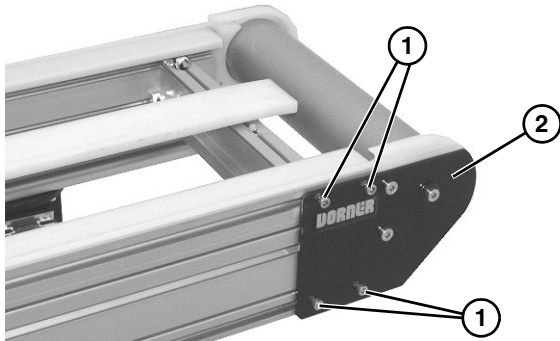

Figure 35
2. On one side of conveyor, loosen the four socket head screws (**Figure 35, item 1**). Repeat on opposite side.
3. Remove idler tail assembly (**Figure 35, item 2**).